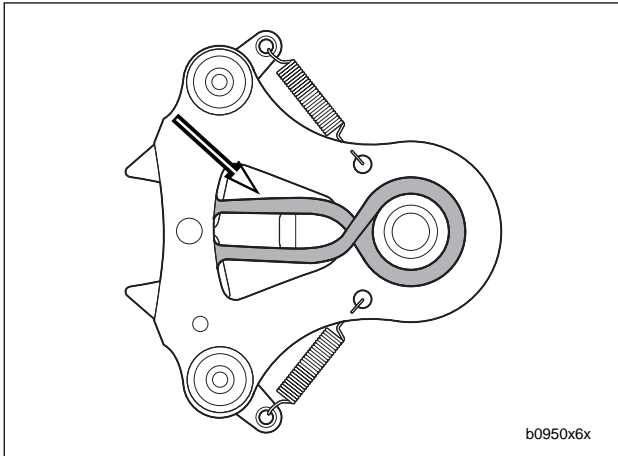

Figure 6-92. Shifter Shaft Return Spring (Correctly Installed)
1. See Figure 6-92. Correctly install shifter return spring onto the reverse side of the shifter shaft assembly before placing shaft in left crankcase half.